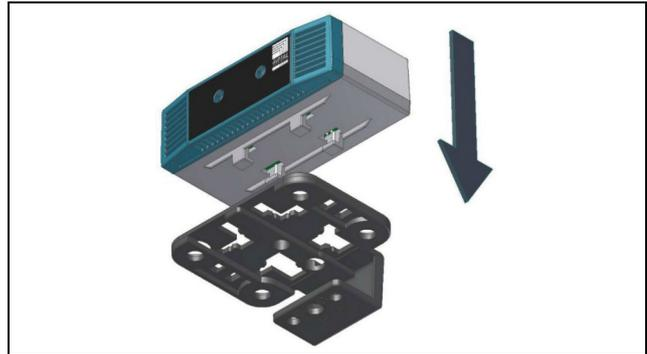
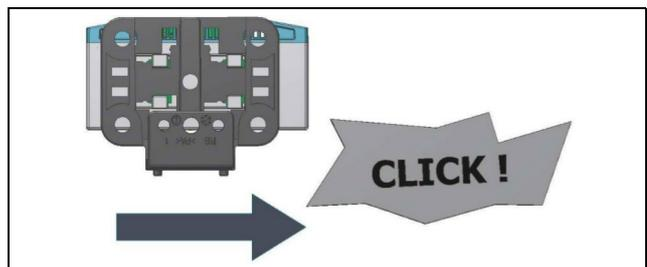

Fig. 2: Attaching the sensor to the bracket
Fig. 3: Latching the sensor into place on the bracket
- Then place the vandalism sensor on the bracket (fig. 2) and latch it in place (fig. 3).